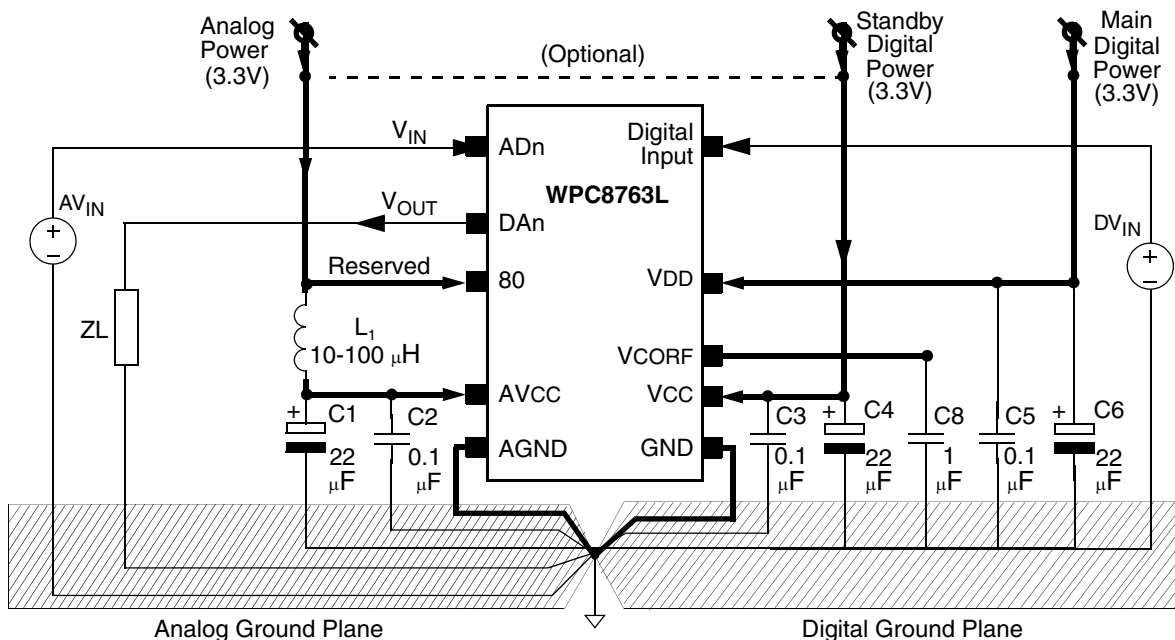

Figure 2. WPC8763L Power Supply Connection
The following directives are recommended for the WPC8763L power and ground connections (see Figure 2 for the power supply connections):
- Connect the ground reference of the ADC module voltage input signals (V_{IN} in Figure 2) to the AGND plane, close to the WPC8763L.
- Connect the ground reference of the DAC module voltage output signals (V_{OUT} in Figure 2) to the AGND plane, close to the WPC8763L.
Connect the analog supply pin (AV_{CC}) to a low-noise, 3.3V power supply. If the AV_{CC} pin is connected to the same power supply as the V_{CC} pin, it is recommended to use an external L-C or R-C filter for the AV_{CC} pin. Figure 2 shows an example of an L-C filter [L_1 and (C_1+C_2)].
Use the following capacitors to reduce power supply glitches, ground bounce and EMI (see Figure 2 for the position of capacitors, e.g., C1, C2, etc.):